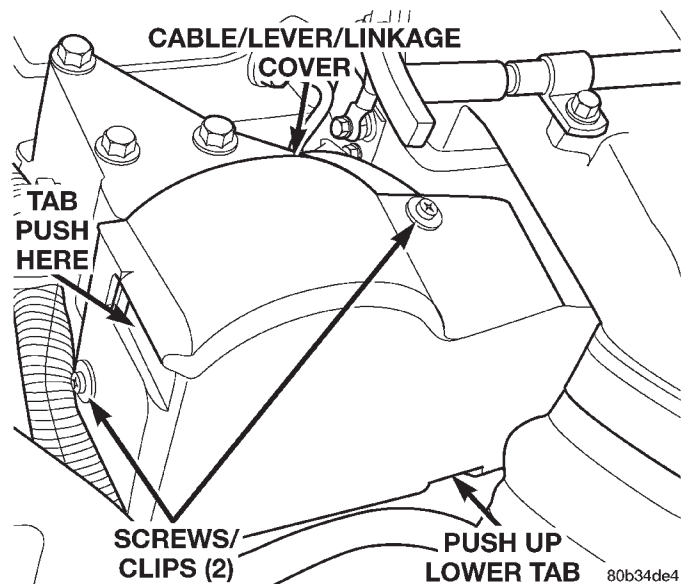

Fig. 20 Cable/Lever/Linkage/Cover
The APPS is serviced (replaced) as one assembly including the lever, brackets and sensor. The APPS is calibrated to its mounting bracket. The APPS assembly is located at left-front of engine below plastic cable/lever/linkage cover (Fig. 20).
(1) Disconnect both negative battery cables at both batteries.
(2) Remove cable cover (Fig. 20). Cable cover is attached with 2 Phillips screws, 2 plastic retention clips and 2 push tabs (Fig. 20). Remove 2 Phillips screws and carefully pry out 2 retention clips. After clip removal, push rearward on front tab, and upward on lower tab for cover removal.